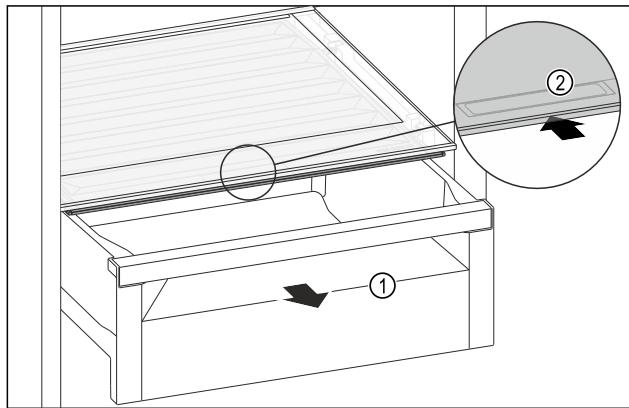

Fig. 109
- ▶ Pull out the drawer *Fig. 109 (1)*.
- ▶ Grasp the recessed grip *Fig. 109 (2)* on the compartment lid and push the compartment lid backwards at the same time.